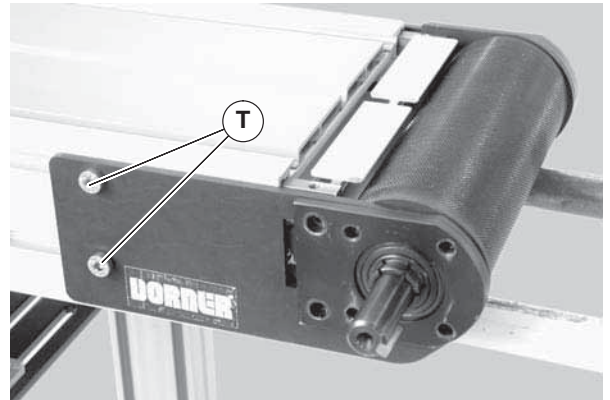

Figure 51
6. On the drive headplate, remove two (2) screws (Figure 51, item T).